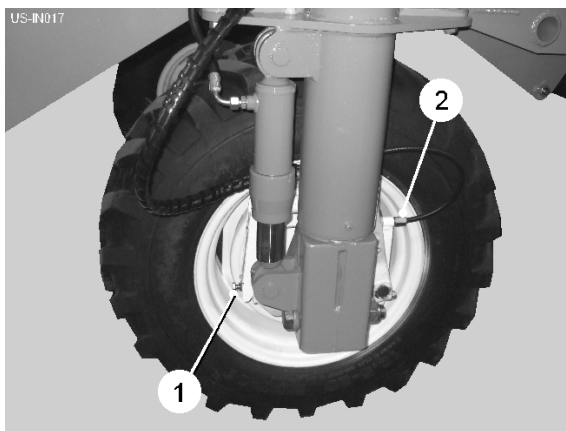
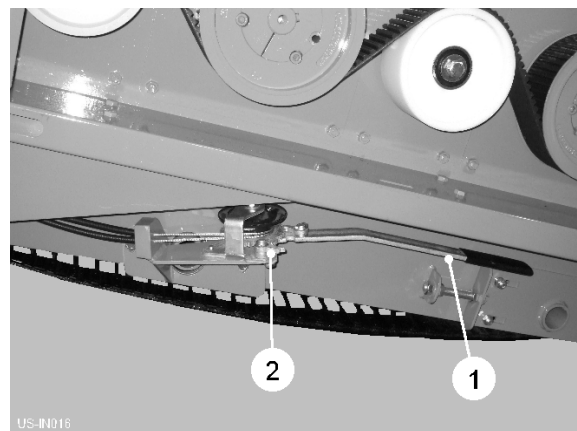

Fig 10
Fig 11
Connect the hydraulic brake hose to the tractor 'brake service outlet'. The machine brakes will operate when the tractor brakes are applied. Brake shoe wear can be taken up by adjusting the setscrews (item 1, fig 10).
To apply the handbrake, pull the lever (item 1, fig 11) in and out against the ratchet until the brake cables are fully tensioned. To remove the handbrake, pull the lever fully out to release the ratchet mechanism catch (item, 2, fig 11). Finally, push the lever back under the machine for transport. Handbrake cable length is set on the cable adjusters (item 2, fig 10).